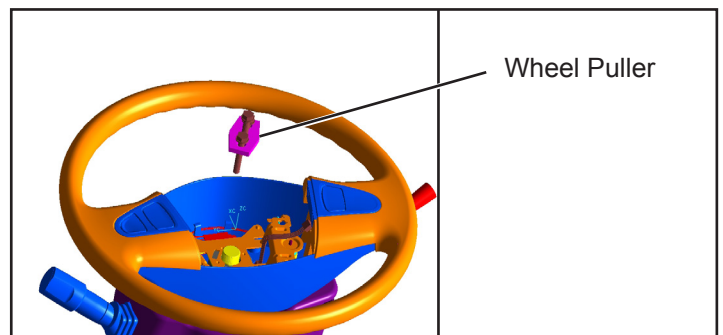

Figure 5 Wheel Puller
7. Using a wheel puller to loosen, remove the steering wheel from the shaft spindle. Refer to Figure 5.